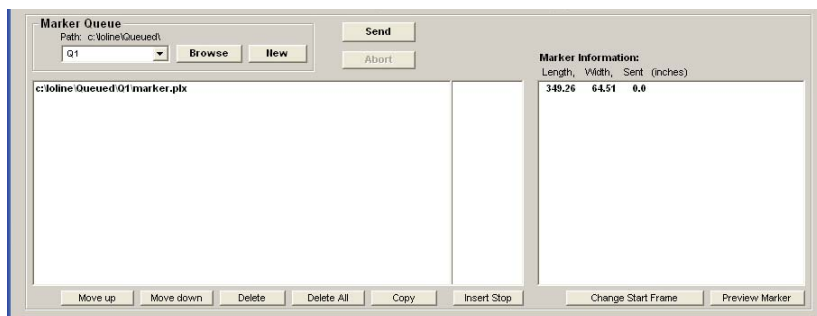

Figure 5. The FlexPlot Marker Queue.
1. The current Marker Queue is shown in the bottom window, Figure 5. Markers added in Step 3 above are displayed in the Marker Queue list. (The file will stay in the list until the Send button is pressed or the file is deleted.)